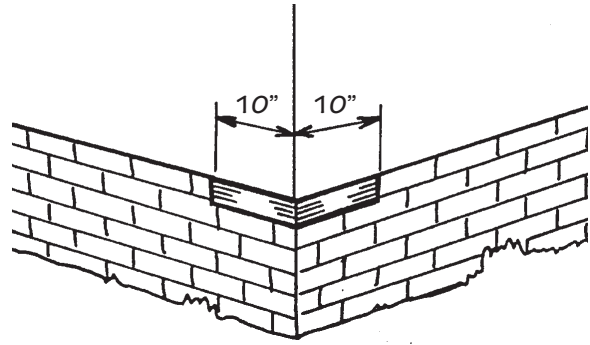

Figure 26.
- A water-resistive material should be used to flash the inside and outside corners a minimum of 10" (254mm) on each side before installation of the corner posts (Fig. 26).